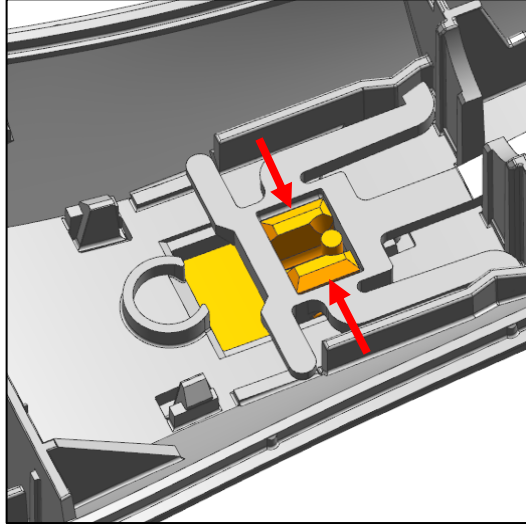
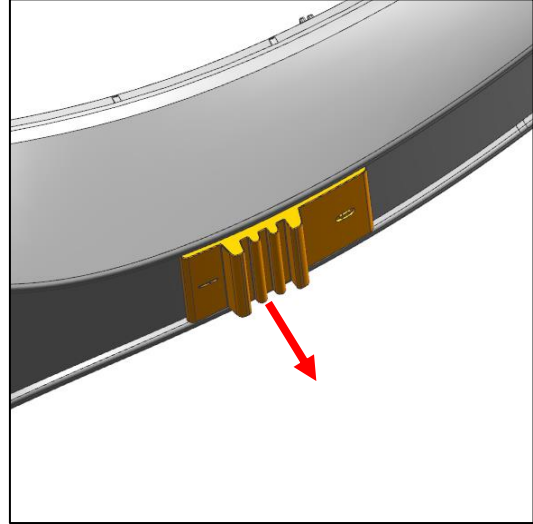

Fig. 10
Fig. 11
- a) Use tweezers or similar to press the hooks of the sliding switch inwards (Fig. 10), and remove the sliding switch (Fig. 11).